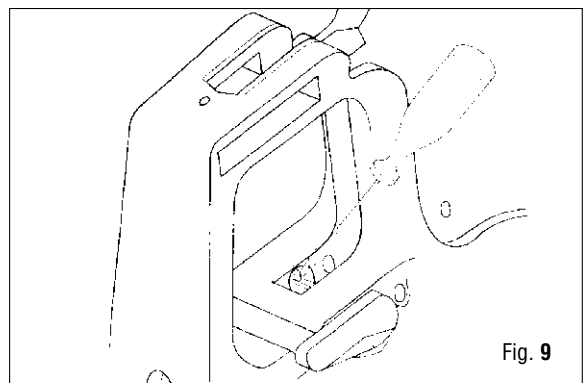
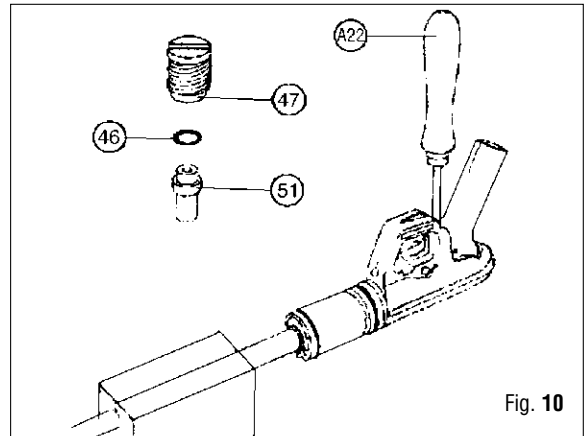

Fig. 9
Fig. 10
23. Remove the safety bar retainer (58) by depressing the latch with a small screwdriver (Fig. 9).
24. Remove safety bar (59) with o-ring (60) from handle (41).
25. Remove o-ring (60) from safety bar.
26. Remove connecting plunger (45) with special tool A-13 (Ø 1,5 mm) or needle nose pliers.
27. Remove bushing (47) with tool A-22, then remove o-ring (46) and guide bushing (51) (Fig. 10).
32. Insert bushing (47), O-ring (46) and guide bushing (51) (if any) into the handle (41). Gently tighten the bushing (47) into its housing in the handle with tool A-22 (Fig. 10).